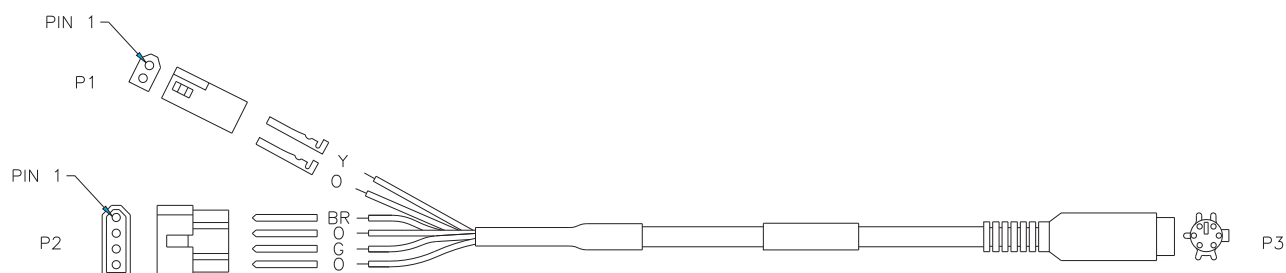

Figure 3.3. Handshake cable (PN 319822)
1. Connect the six-pin connector of the handshake cable (PN 319822) to the six-pin MINI-DIN connector labeled “Autosampler” located on the Trace 2000 GC back (Figure 3.3, see Table 3.1 and Table 3.2 for pinouts).